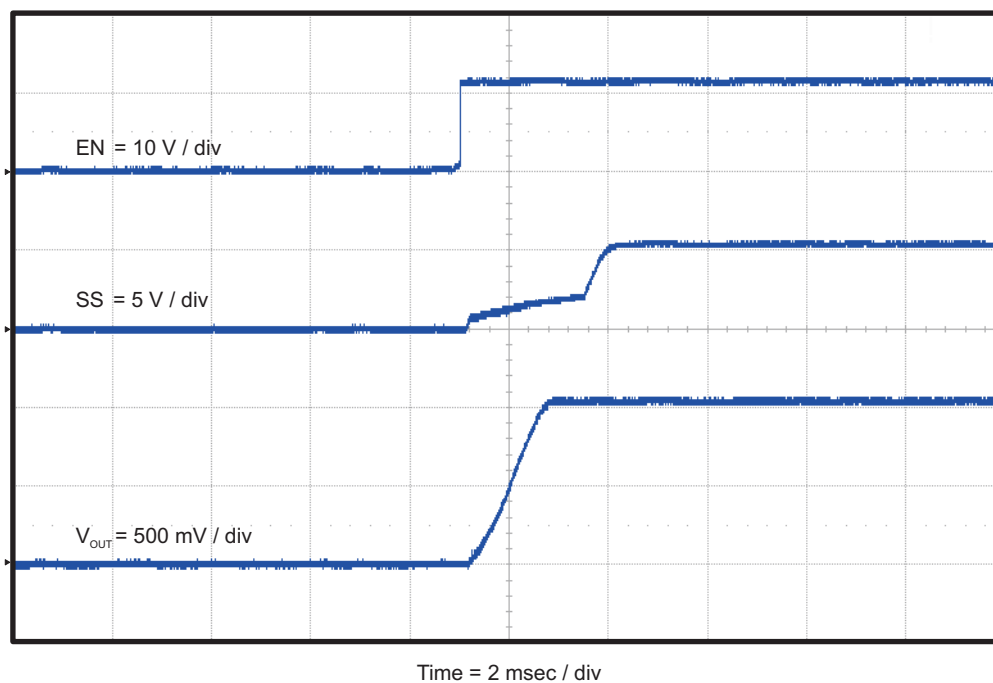

Figure 12. TPS54228EVM-686 Start-Up Relative to EN
The TPS54228EVM-686 start-up waveform relative to enable (EN) is shown in Figure 12.